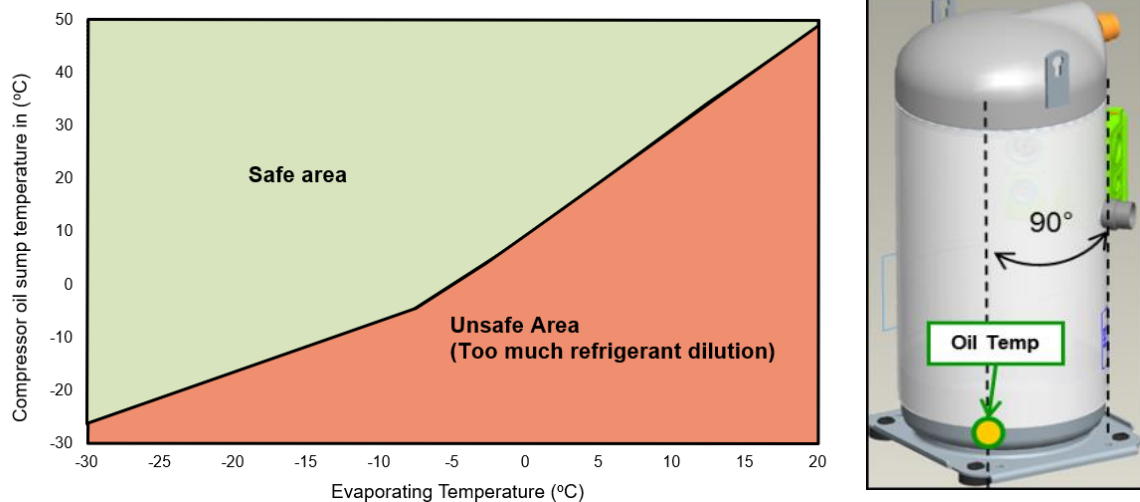

Figure 17: Oil dilution chart and position for oil temperature sensor
- **In all systems:** to test liquid floodback, all possible transient operation conditions in the system should be checked, eg, compressor frequent start/stop, compressor start after long off time with migration, defrost, switching between the operation modes in reversible systems, load changes, fans or pumps cycling at low load and more. To evaluate the risk of liquid floodback, please refer to the oil dilution chart in **Figure 17**. Liquid level and superheat at compressor inlet have to be checked.
The bottom shell temperature together with the evaporating temperature gives an indication whether liquid refrigerant is returning or diluted in the compressor oil sump. The compressor sump temperature must remain in the (green) safe area, as shown in the oil dilution chart in **Figure 17** above. In case of operation in the (red) unsafe area, adjustments are required in order to modify the system design, refrigerant charge or superheat setting of the expansion device(s). The bottom shell temperature should be measured accurately. The thermo-probe must be positioned on the opposite side of the sight glass or at an angle of 90° clockwise from the suction inlet with view on the top.